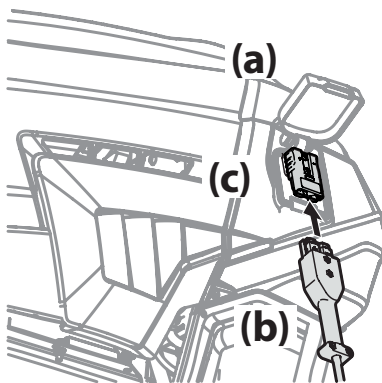
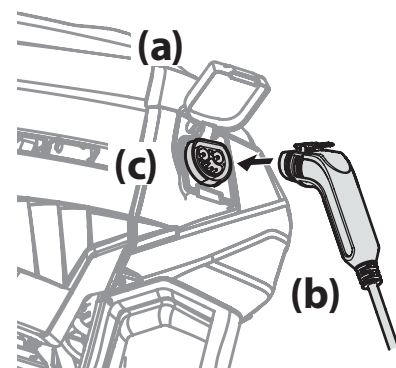

Figure 13
Figure 14
1. Lift the charging port cover (a). See Figure 13 for Style 1 and Figure 14 for Style 2.
2. Insert the charging cord (b) into the charging port (c). See Figure 13 for Style 1 and Figure 14 for Style 2.